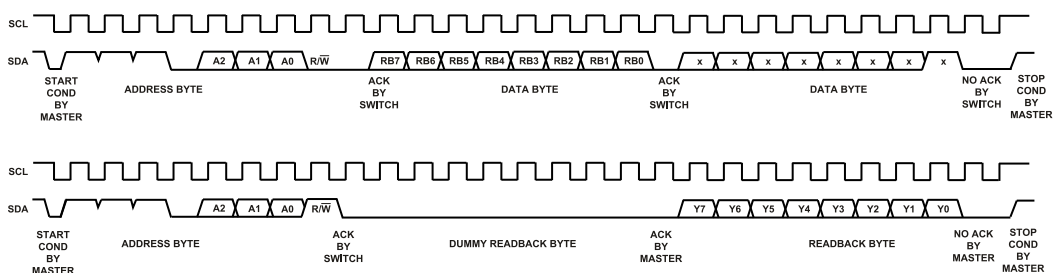

Figure 35. Read Operation
- ADG2128 is expecting a 2-byte write; therefore, be sure to enter another byte of don't cares. (see Figure 35).
The entire read sequence is shown in Figure 35.